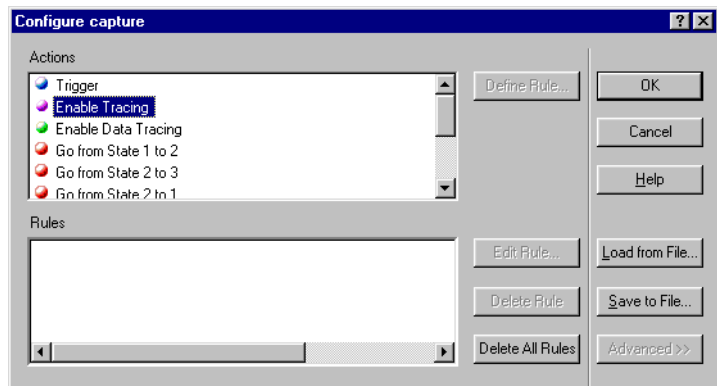

Figure 8-47 Configure capture dialog box
1. Set the tracing conditions by selecting **Configure Capture** from the **Trace** menu. The **Configure capture** dialog box is shown in Figure 8-47.